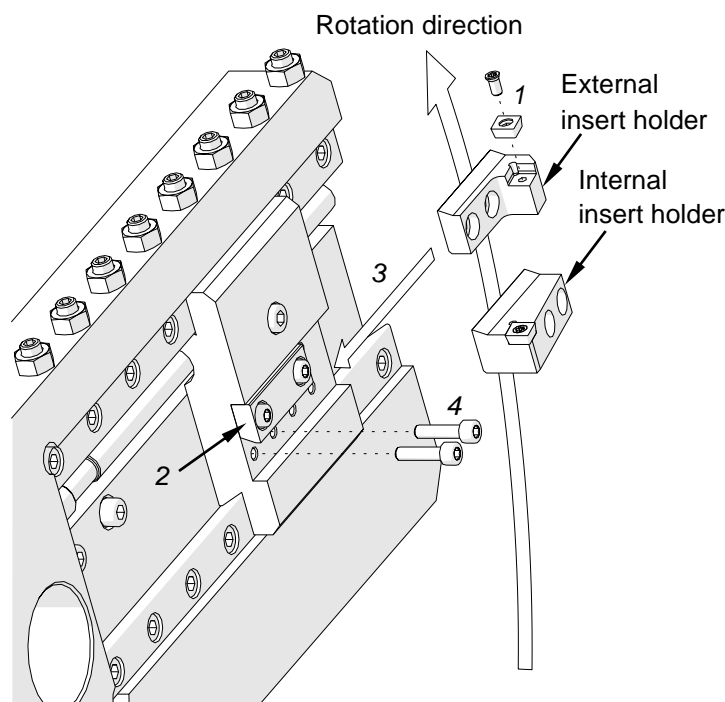

Fig. 8. Installing the tool
Depending on the diameter of the flange to be machined, select either the internal ($\text{Ø}90\text{--}451$, 3.54–17.76") or external insert holder ($\text{Ø}147\text{--}508$, 5.79–20.00"), onto which install a cutting insert using the supplied screwdriver (1, Fig. 8). Then, use the 4 mm hex wrench to tighten the clamp 2, and slide the insert holder under the clamp (3) and tighten with the screws 4.